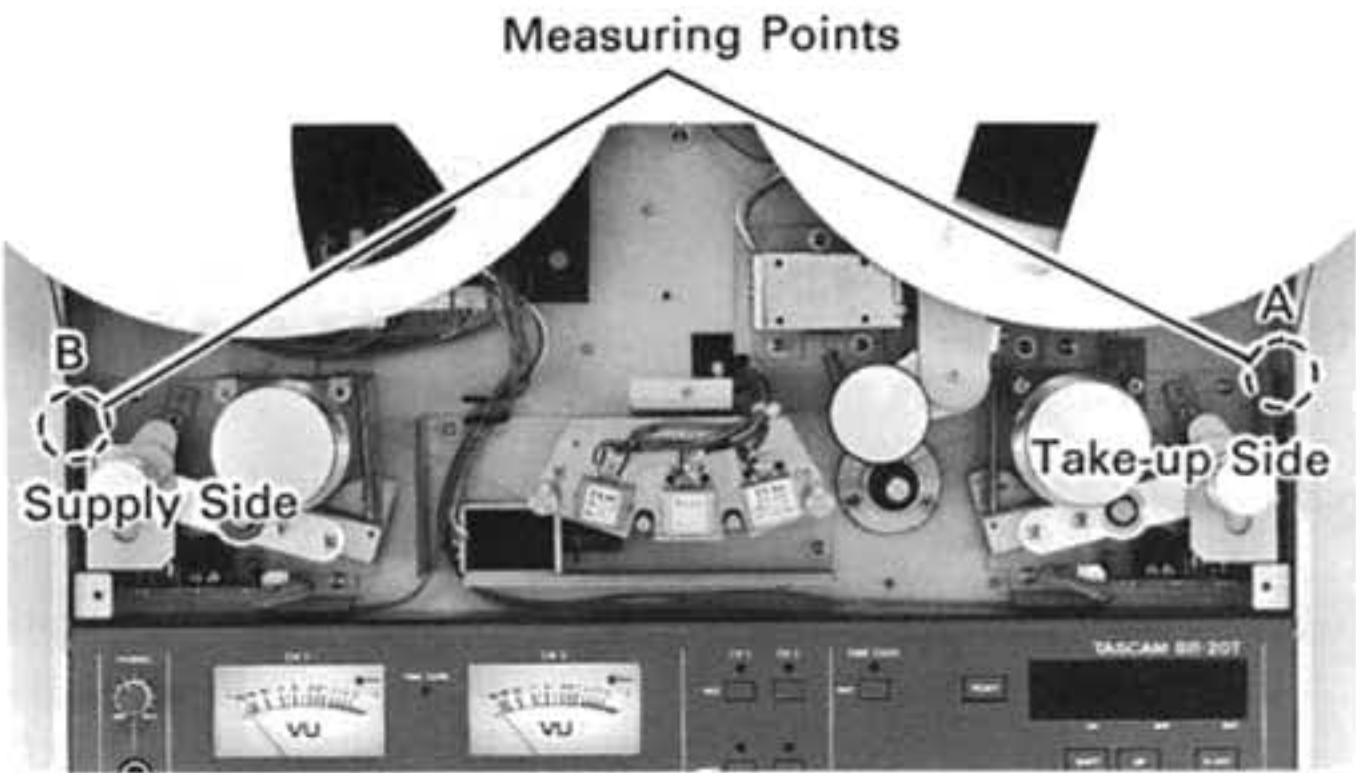
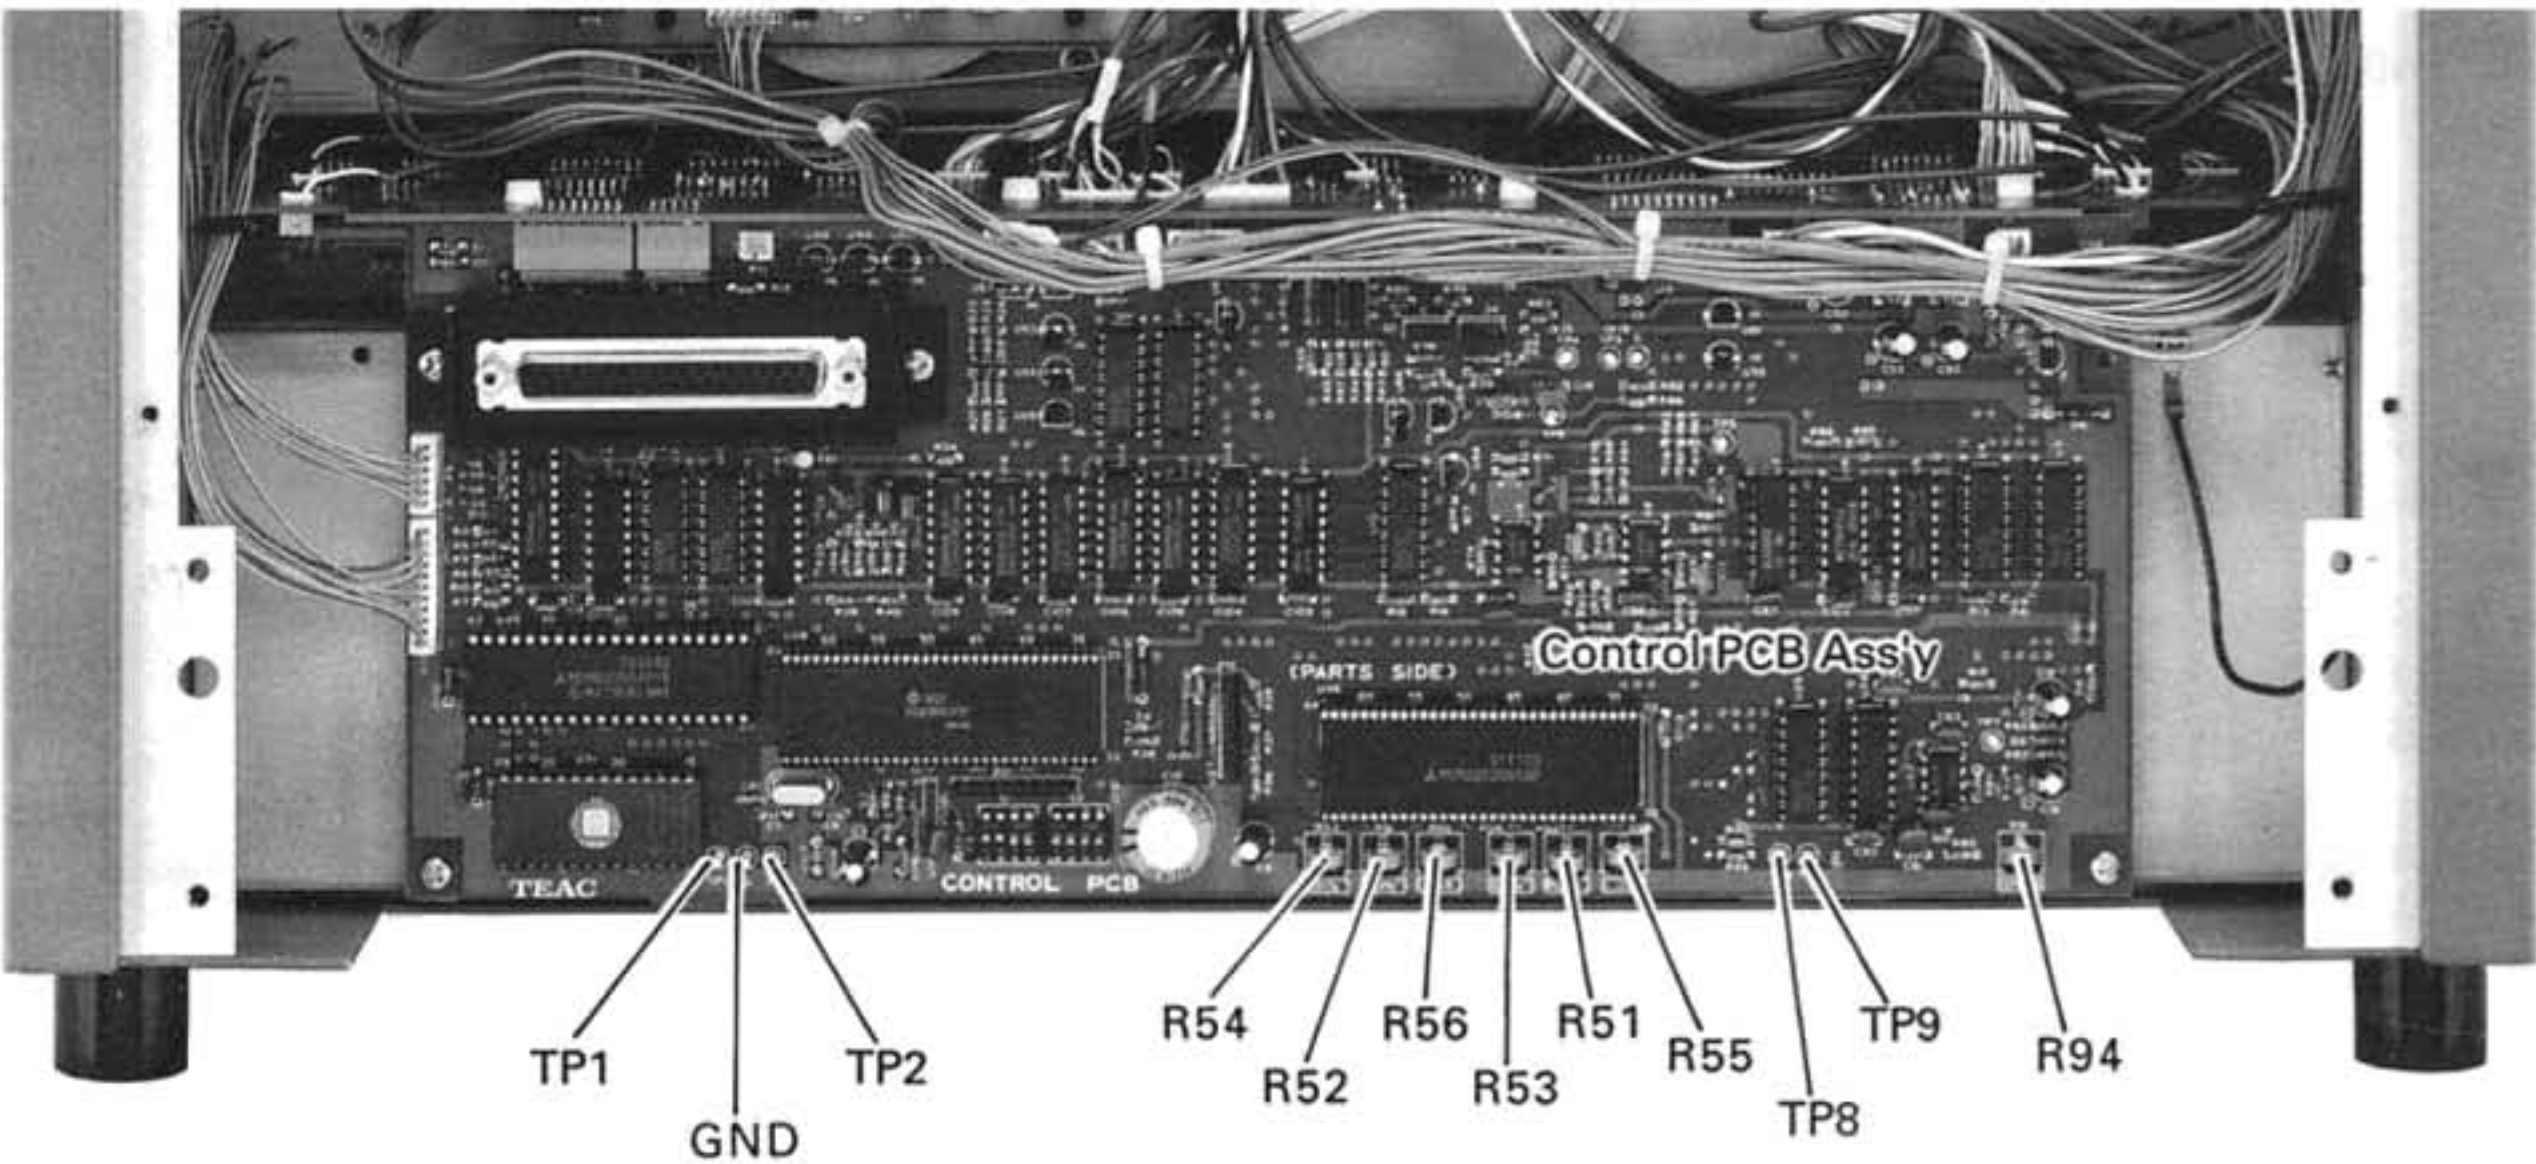

Figure 5-6. Tape Tension Measurement Points
Figure 5-7. Tape Tension Adjustment Resistors
- 2. Enter EDIT mode, and, using a tentelometer T2-H20-M2, measure tape tension both at the supply (test point A) and the takeup (test point B) side (for test point locations, see Figure 5-6). Readings should be as follows :
Locate the following resistors on the Control PCB (Figure 5-7) and adjust them.
Run tape in PLAY and measure tape tension at A (takeup) and B (supply) test points shown in Figure 5-6.
Locate the following resistors on the Control PCB (Figure 5-7) and adjust them until tape tension is within specifications.
Short-circuit between TP-8 and TP-9 on the Control PCB (Figure 5-7), enter EDIT mode, and read the tentelometer at test points A (F.FWD, B.T) and B (REW, T.T) shown in Figure 5-6.
Locate the following resistors on the Control PCB (Figure 5-7) and adjust them until tension is within specifications.
1. Connect an oscilloscope between TP-1 and GND on the Control PCB (Figure 5-7).
Adjust resistor R94 located on the Control PCB (Figure 5-7).